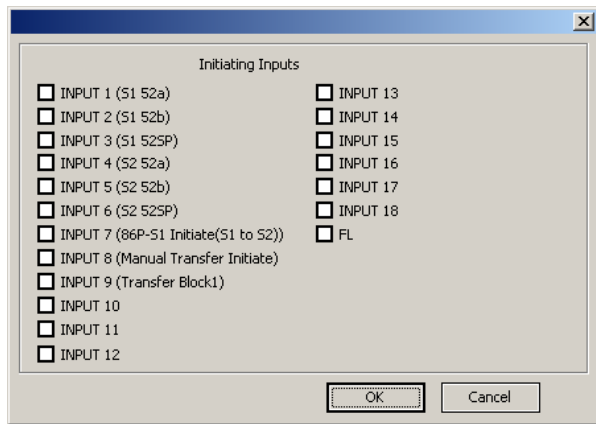

Figure 4-98 Selection Screen for Initiating Inputs
14. If desired select Initiating Input button. ISSLogic® will display the Initiating Input Selection screen (Figure 4-98).